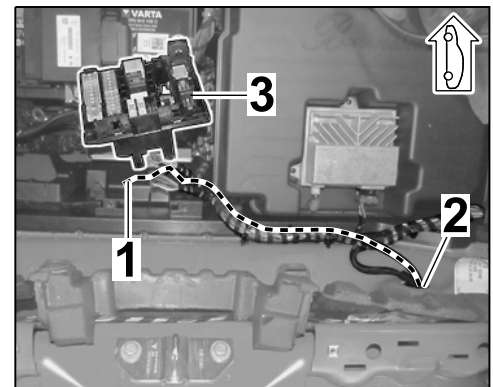

Figure 22
3.3.1 Route line 0.52; BK/YE along electric wire harness to the rubber sleeve (rear end plate) and secure lines without tension so that no chafing occurs (⇒ *Figure 22*).